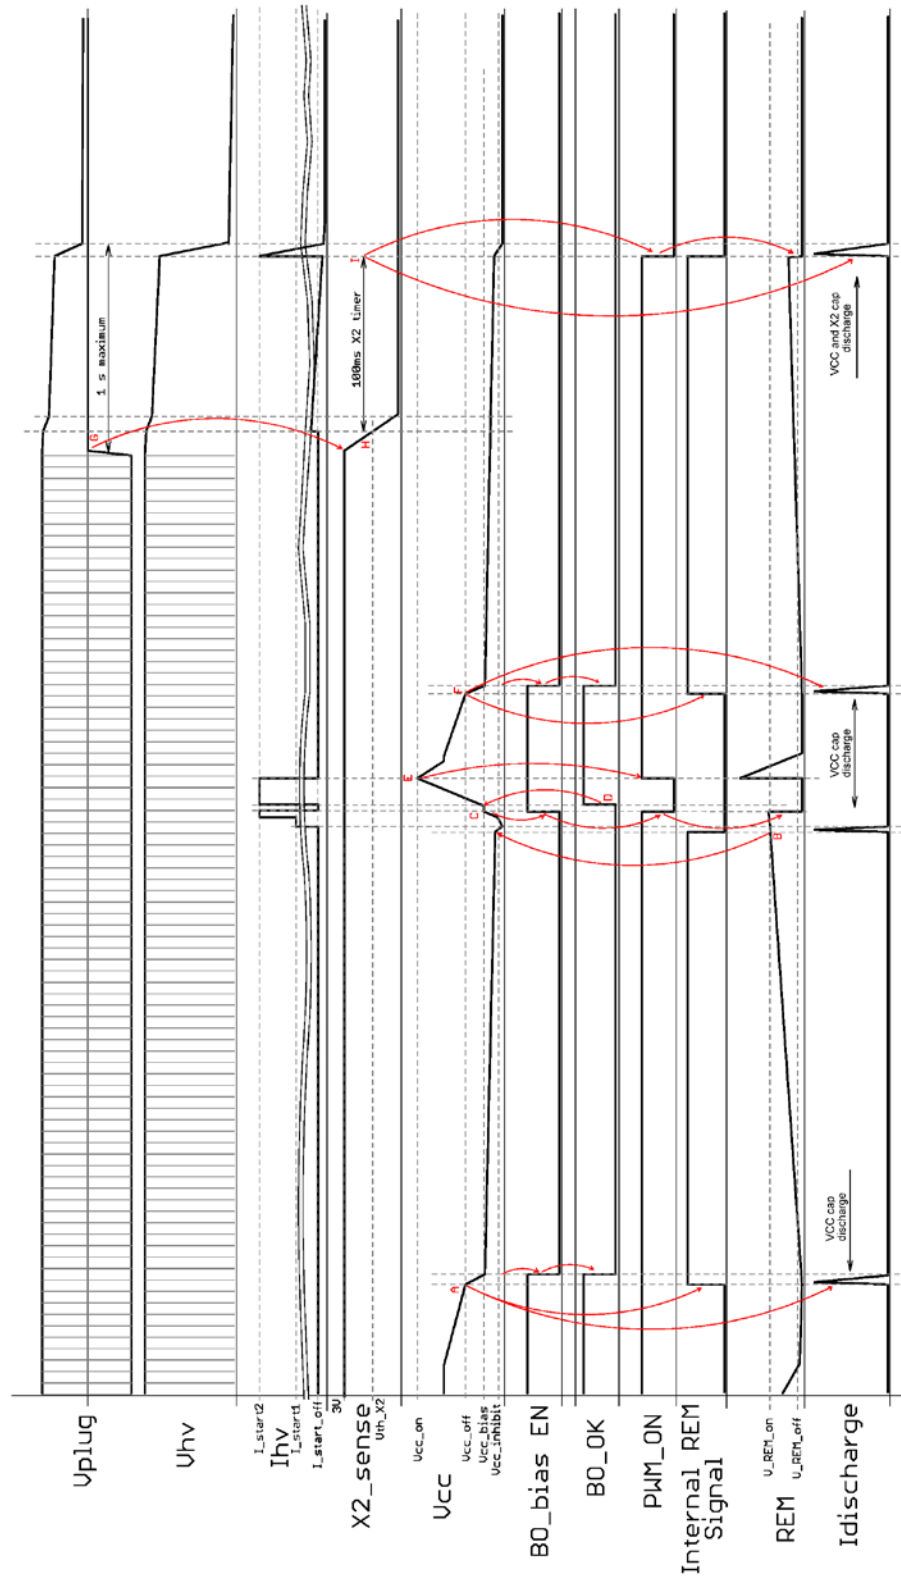

Figure 53. IC Operation Sequencing – Case 3 (Active OFF)
3. Off-mode operation – restart by primary remote pull-up then AC line off – Figure 53: